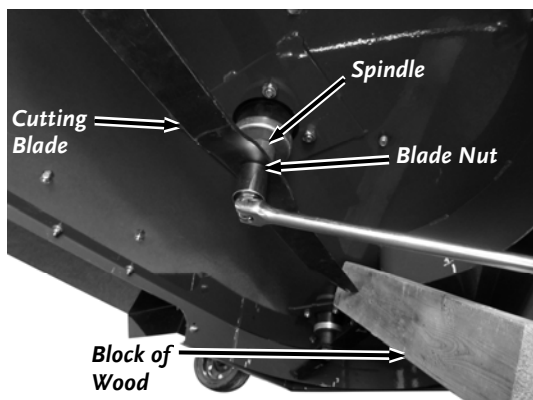

Figure 39
3. Place a Block of Wood between the Blade tip and Deck to stop the Blade from turning (**Figure 39**).